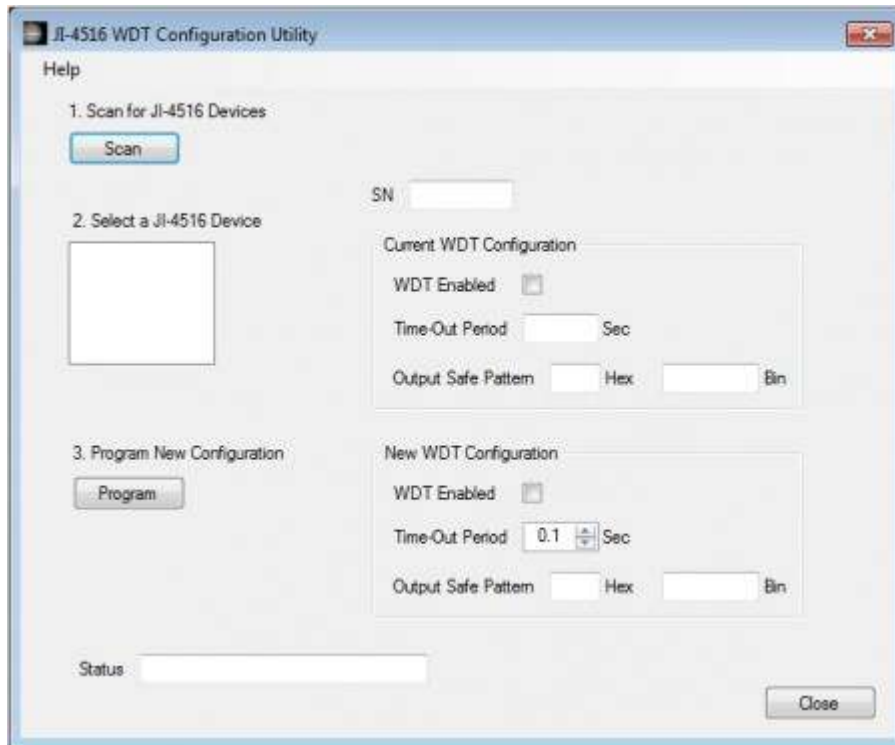

Figure 5.2 JI-4516 Watchdog Configuration Utility Window
4. Verify that the Watchdog Configuration Utility window is displayed as shown in figure 5.2